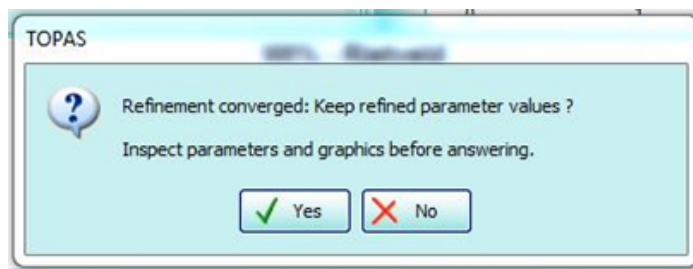

Figure 11. Refinement finished message
2. Figure 10. Play button When the refinement finishes a window pops up asking to accept or deny the refinement (*Figure 11*). It is recommended to first examine the calculated curve.